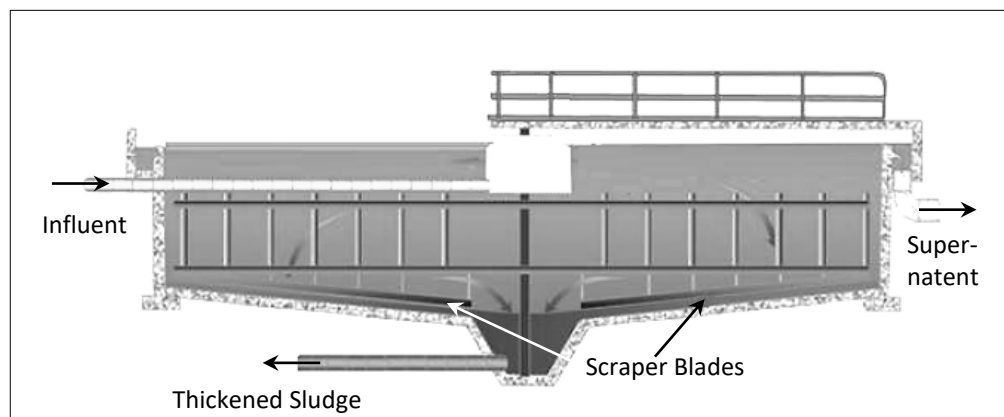

Figure 4-2. Cross sectional view of a gravity thickening tank.
- ❑ **Gravity Thickening.** Gravity thickening is most effective on heavy primary sludge or a mixture of primary and secondary sludge. It is often done in a circular tank where the sludge settles to the bottom of the tank (Figure 4-2). The supernatant (clear wastewater) is returned to the beginning of the plant for treatment. The thickened sludge is removed from the bottom of the tank for further processing. This form of thickening produces sludge with 0.5 to 3% total solids.